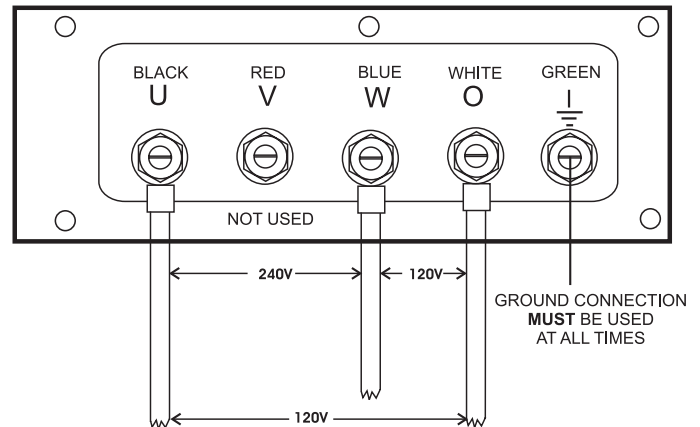

Figure 30. UVWO Terminal Lugs 1Ø-240V/120V Connections
2. Connect the load wires to the **Output Terminal Lugs** as shown in Figure 30.